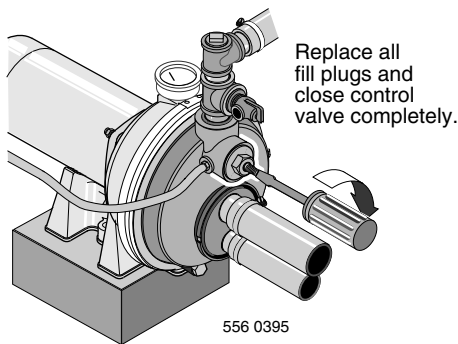

Figure 16: Prime Pump
Step 2. Replace all fill plugs and close the control valve completely (Figure 16).